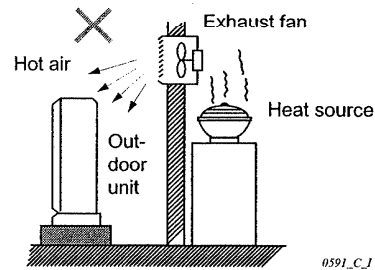

Fig. 4
- heat sources, exhaust fans, etc. Fig. 4